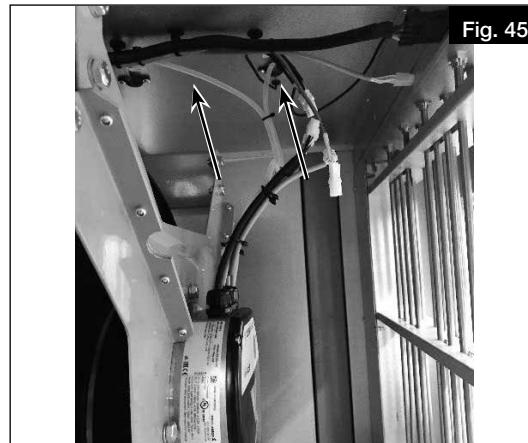

Fig. 45
3. Remove the fan pressure hoses (see Fig. 45).